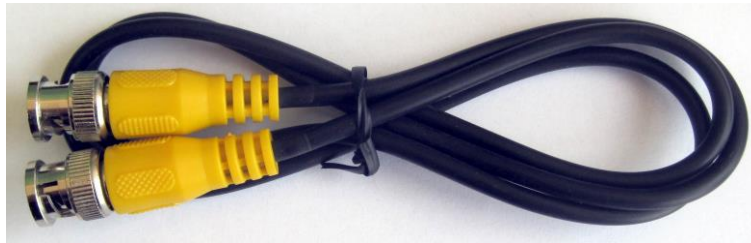

Figure 114 BNC to BNC Adapter Cable
c) BNC to BNC Adapter Cable (See Figure.114)